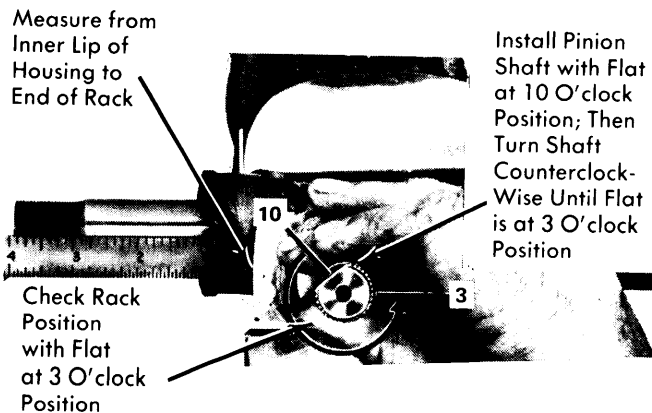

Fig. 5 Pinion Shaft Installation
2) Lubricate pinion shaft lower race and thrust bearing and install in housing with flanged edge of race facing up. Center rack in housing so distance between rack end and housing is four inches (see Fig. 5). Install pinion shaft with flat on splined end of pinion at about 10 o'clock position (see Fig. 5). Turn pinion and push down until shaft race bottoms on thrust bearing. Again center steering rack, flat on pinion should now be at 3 o'clock position. If flat on pinion is not at 3 o'clock position,